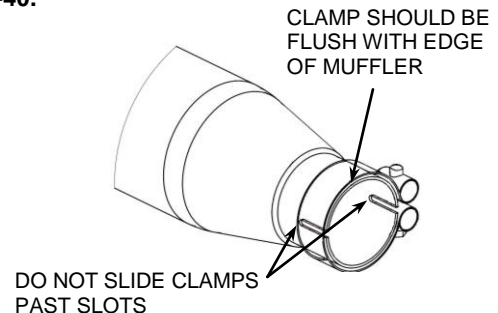

FIGURE 2
7. Check all clearances and alignments then tighten the mounting bolts to factory specifications. Tighten the muffler clamps. (NOTE: The muffler clamps should be flush with the end of the muffler when tightened. See **Figure 2**. If the muffler clamps are slid past the slots on the slip collar the clamps will not tighten the mufflers properly).